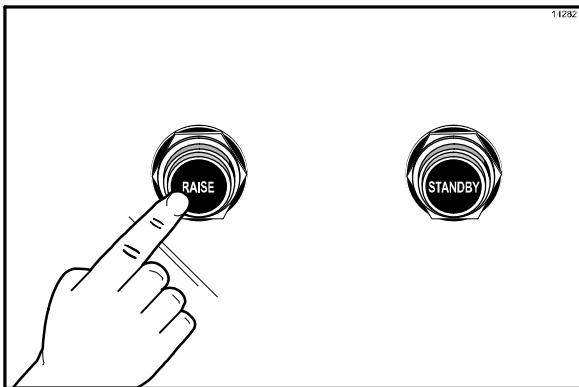

Figure 28
2. To raise the upper platen to the OPEN position to resume cooking, press the RAISE button. (See Figure 28.)